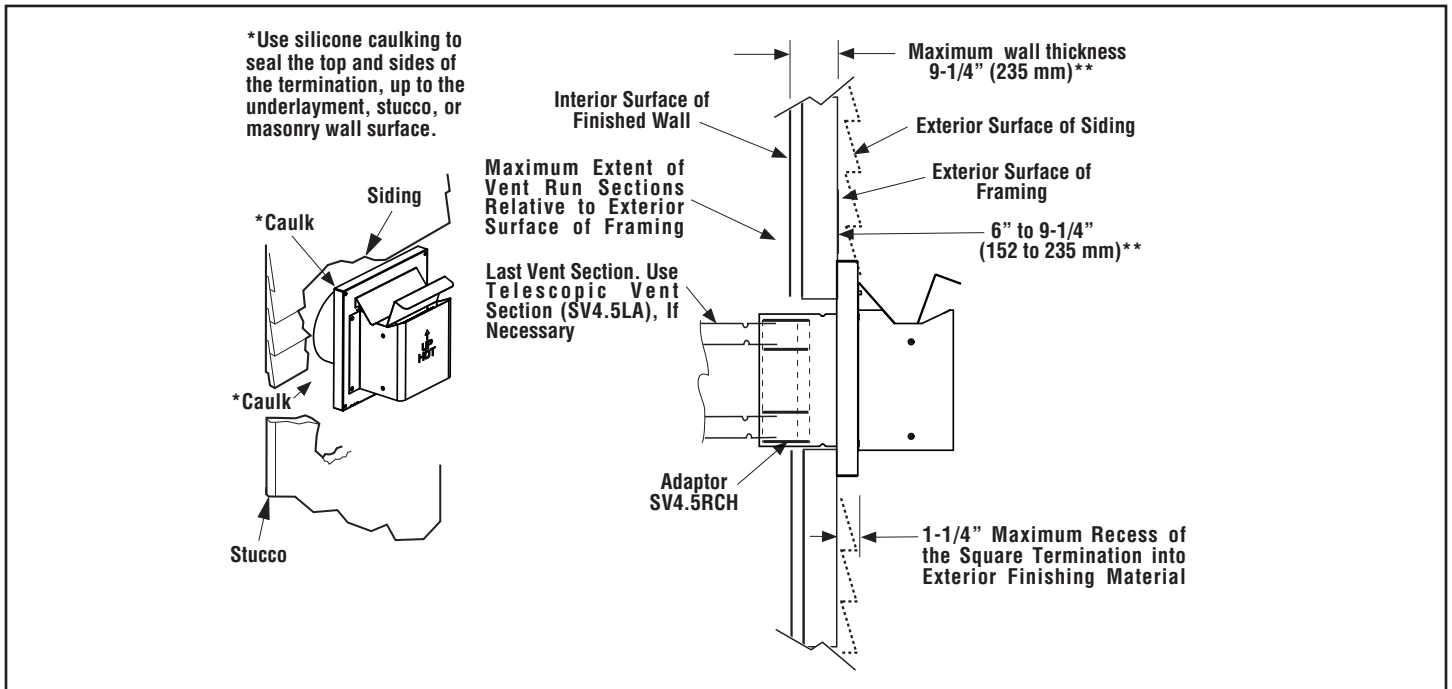

Figure 10 - Venting Connection and Exterior Wall Recessing of the Horizontal Compact Termination (SV4.5HTKCT)
1. **Install the termination (SV4.5HTKCT)**—From outside the exterior wall, slide the collars of the termination onto the adaptor (the outer over the outer and the inner inside the inner) until the termination seats against the exterior wall surface to which it will be attached. Orient the housing of the termination with the arrow pointed upwards. Secure the termination to the exterior wall. The horizontal termination must not be recessed into the exterior wall or siding by more than the 1-1/4" (32 mm) (*Figure 10, Page 16*).